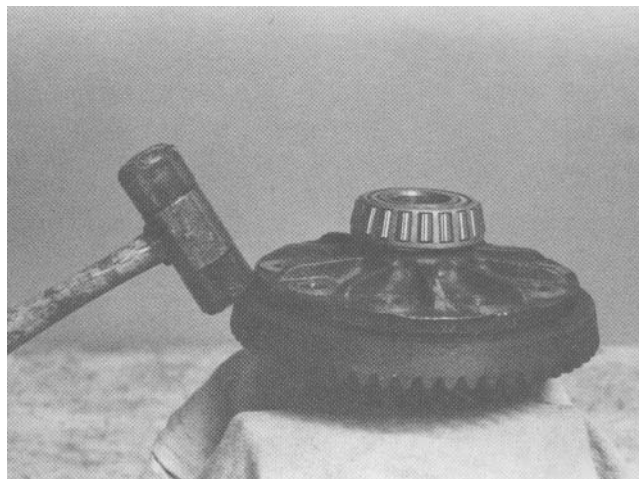

Figure 25
5. Remove the ring gear cap screws. Using a hard wooden block and a hammer, drive the ring gear from the differential case. Be prepared to protect the ring gear when removing it from the differential case; this will avoid damage of the ring gear teeth (Fig. 25).